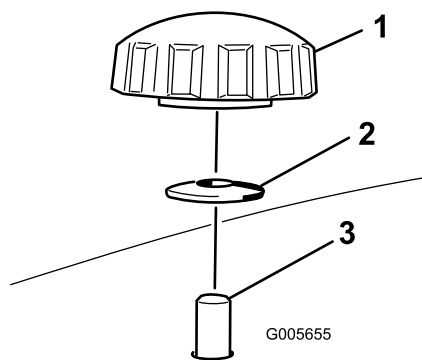

Figure 4
2. Install the left baffle into the deck securing the studs on the baffle from the top of the mower using 2 knobs and curved washers (cupped side facing the mower) as shown in Figure 3 and Figure 4.
3. Install the right baffle and secure it using 2 knobs and curved washers (cupped side facing the mower) as shown in Figure 3 and Figure 4.